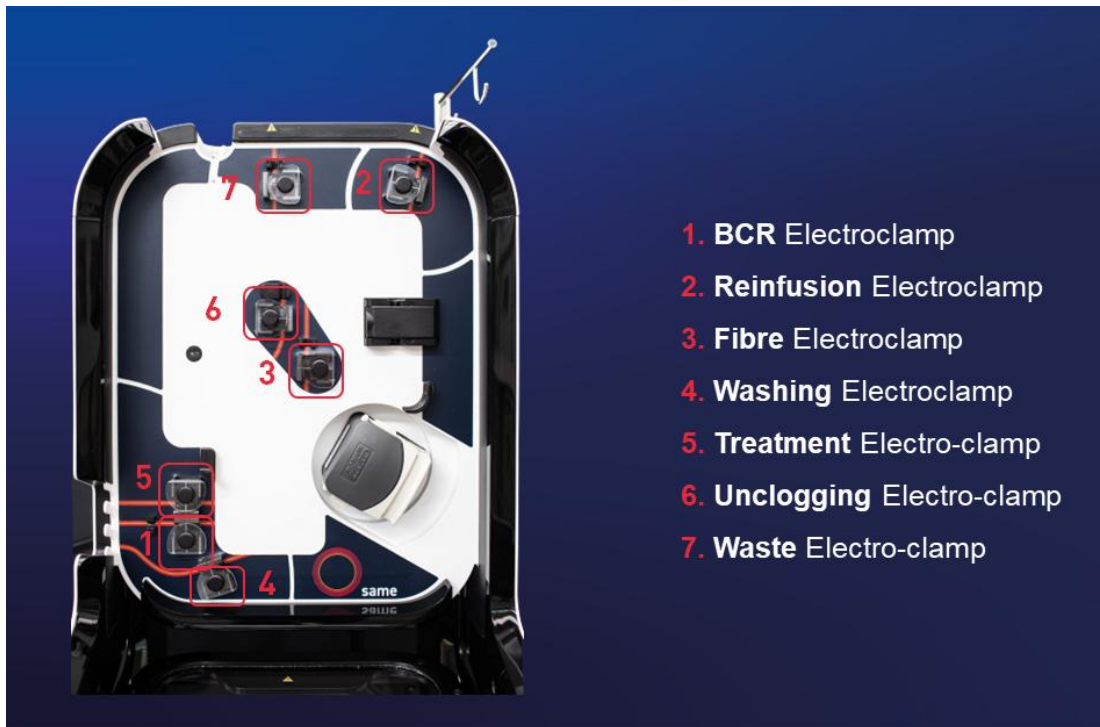

Figure 85: Installation of the electroclamps
- Put the tubing at the bottom of the grooves on all of the electroclamps (See Figure 85).